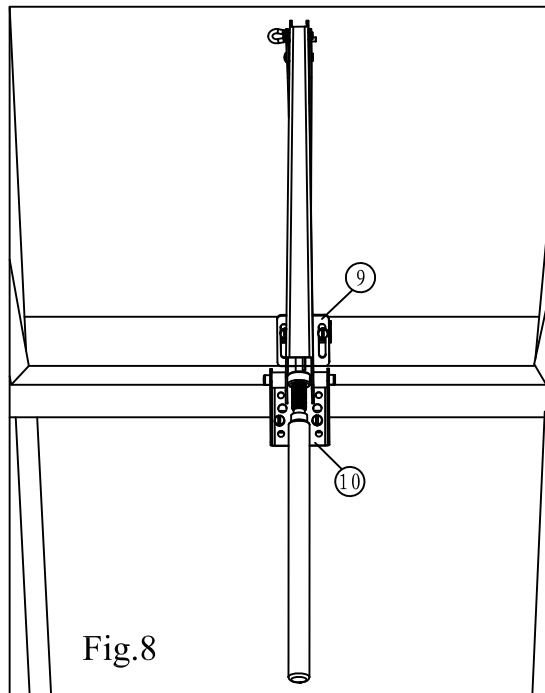

Fig.8
6. Fix the frame bracket (10) to the window sill, and fix the window bracket (9) to the window frame just above the frame bracket (10). The window should be closed. See fig.8.